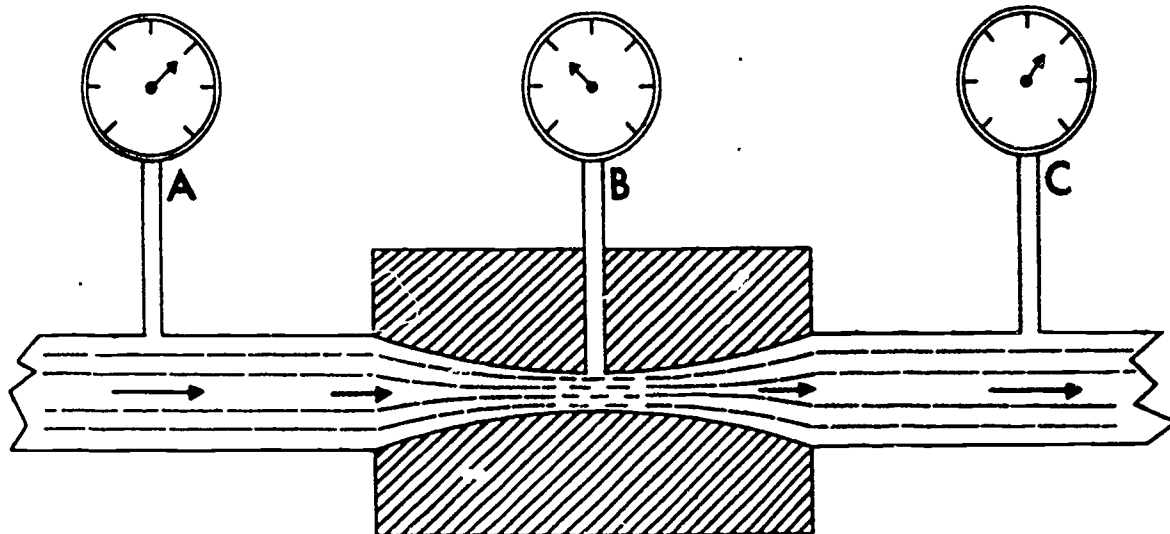

Figure 2. Bernoulli's Principle.
The venturi, figure 2 (1), forms the base for the airflow control and shutoff valve. With no butterfly valve, the venturi is just a flow limiting device; it is not a control device. Take a close look at the venturi. Notice that the center of the venturi is smaller than either of its ends. This center part is the throat. The inlet is located to the right of the throat and is the base of the venturi. The throat and the base of the venturi both have tap-off connections through which the air pressure is taken to operate the valve. The tap-off at the throat is labeled (A) and the one at the base is labeled (B). The pressures from the throat and the base provide the valve with differential pressures. Basically, differential pressures are different pressures. When a flow of air is sent through the venturi from the base to the throat as shown in figure 2, it gives an effect that is known as Bernoulli's Principle.
Bernoulli's Principle has its roots in fluid mechanics. Basically, it states that the pressure exerted by a moving fluid decreases when the fluid speeds up and increases when the fluid slows down. For example, suppose that water is being forced through a horizontal pipe, one section of which is narrower than the rest. The water has to flow faster through the narrow section and thus must exert less pressure there than on the other sections. This principle also applies to airflow. As you can see in figure 2, the pressure at point B is less than that at points A or C.